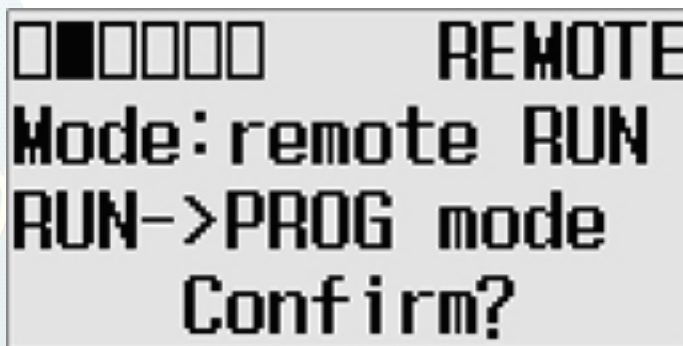

Figure 10 Change Mode Screen
9. If the controller is in a non-executing mode, skip to the next step. If it is in an executing mode (i.e. "RUN" or "RMOTE"), the Change Mode Screen will appear (refer to Figure 10 Change Mode Screen).